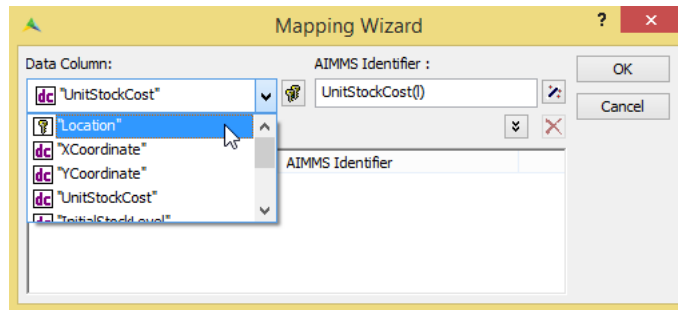

Figure 8.3: The Mapping wizard
- ▶ select the primary key "Location" from the 'Data Column' drop down list (see Figure 8.3),